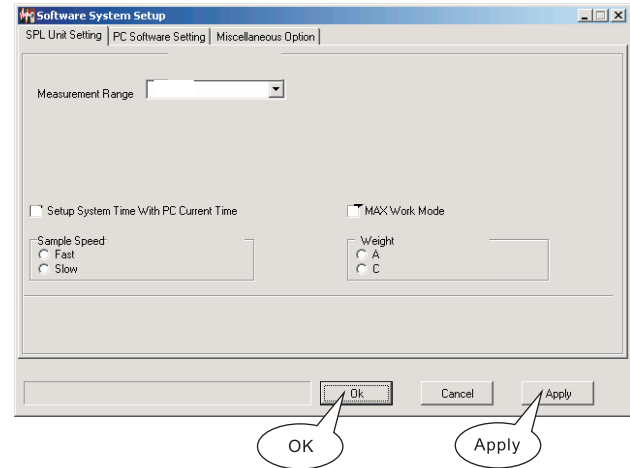

Figure 28
- Click System Setup in Option menu bar or System Option button in tool column will enter into defaulted option page SPL Unit Setting, as shown in figure 28: (Click Apply or OK to confirm)